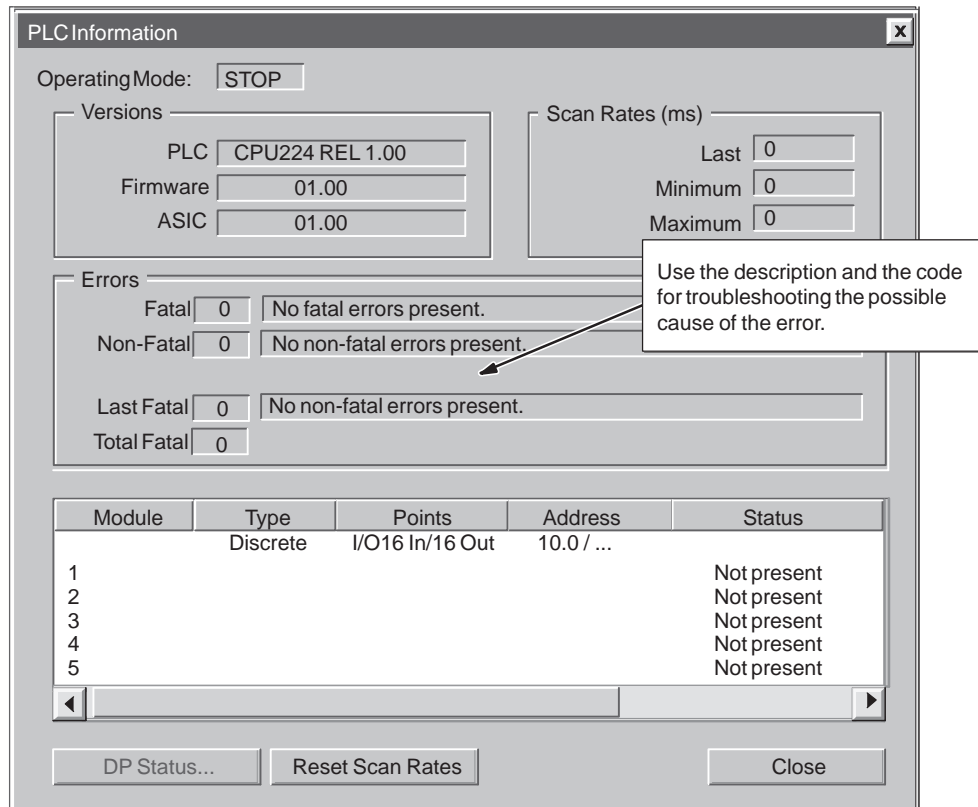

Figure 4-21 CPU Information Dialog: Error Status Tab
The S7-200 CPU classifies errors as either fatal errors or non-fatal errors. You can use STEP 7-Micro/WIN 32 to view the error codes that were generated by the error. Select **PLC > Information** from the menu bar to view these errors. Figure 4-21 shows the dialog box that displays the error code and the description of the error. Refer to Appendix B for a complete listing of the error codes.
In Figure 4-21, the Last Fatal field shows the previous fatal error code generated by the CPU. This value is retained over power cycles if the RAM is retained. This location is cleared whenever all memory of the CPU is cleared, or if the RAM is not retained after a prolonged power outage.
Non-fatal errors can degrade some aspect of the CPU performance, but they do not render the CPU incapable of executing your program or updating the I/O. As shown in Figure 4-21, you can use STEP 7-Micro/WIN 32 to view the error codes that were generated by the non-fatal error. There are three basic categories of non-fatal errors:
- Program execution errors. Your program can create error conditions while the program is being executed. For example, an indirect-address pointer that was valid when the program compiled may be modified during the execution of the program to point to an out-of-range address. This is considered a run-time programming error. Use the dialog box shown in Figure 4-21 on page 4-36 to determine what type of error occurred.